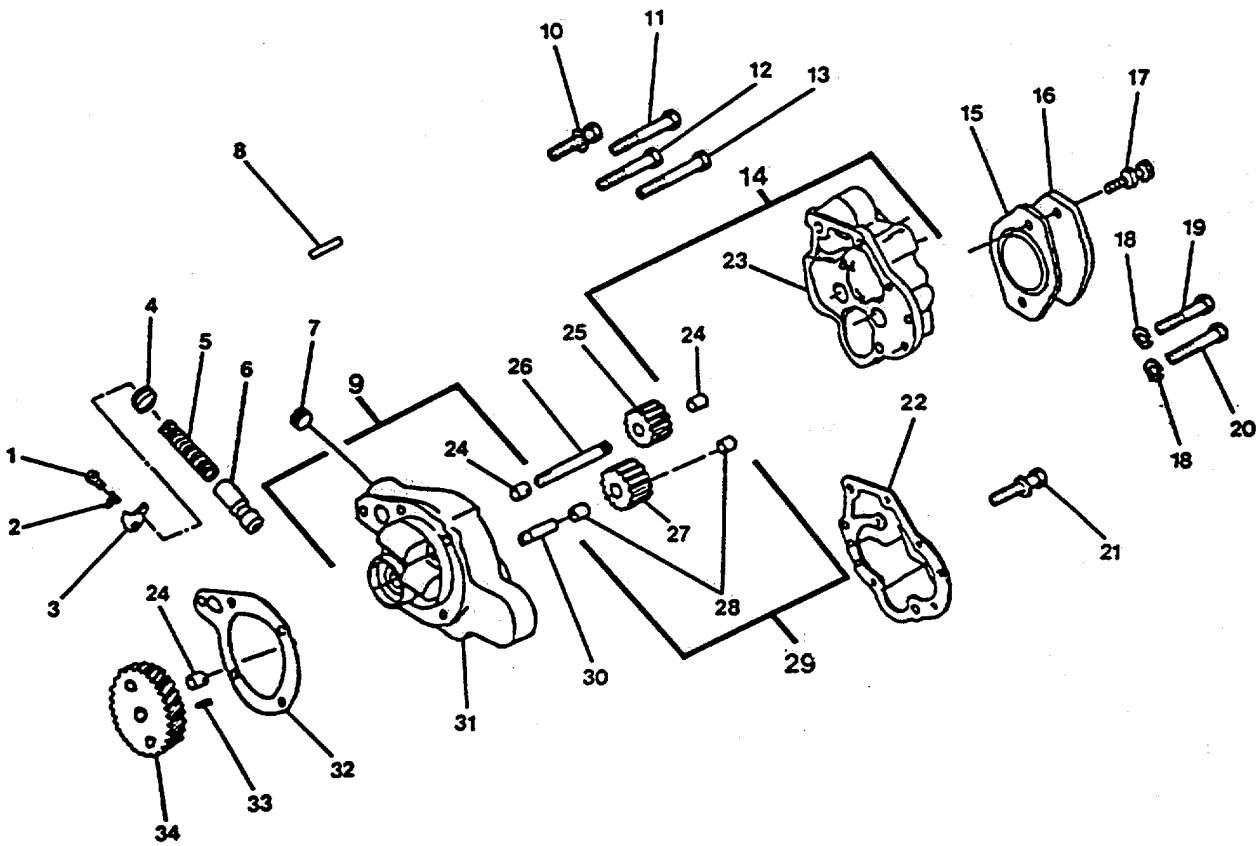

FIGURE 3-47. Lubricating Oil Pump Group.
- b. Remove capscrews (19, Figure 3-47), machine bolts (20) and lockwashers (18), securing oil pump to the cylinder block.
- a. Remove assembled washer capscrews (21, Figure 3-47) securing cover (23) to pump body (31). Tap cover (23) lightly with rubber hammer to help remove cover (23) from dowels (8) in the body (31). Remove cover.
- b. Remove the idler gear (25) from shaft (26).
- c. Using gear puller P/N 3375082 to remove drive gear P/N 143190 or gear puller P/N 3375083 to remove drive gear P/N 125988, remove drive gear (27) from drive shaft (30) and drive gear (34).
ASSEMBLY (Refer to Figure 3-47).